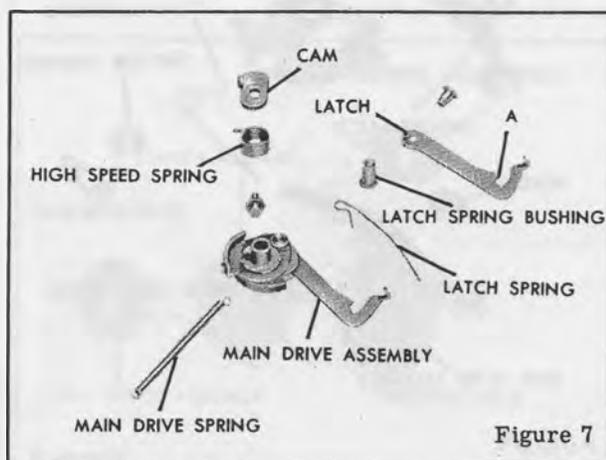
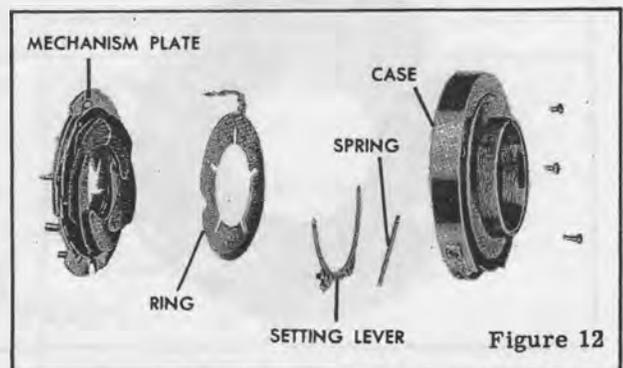
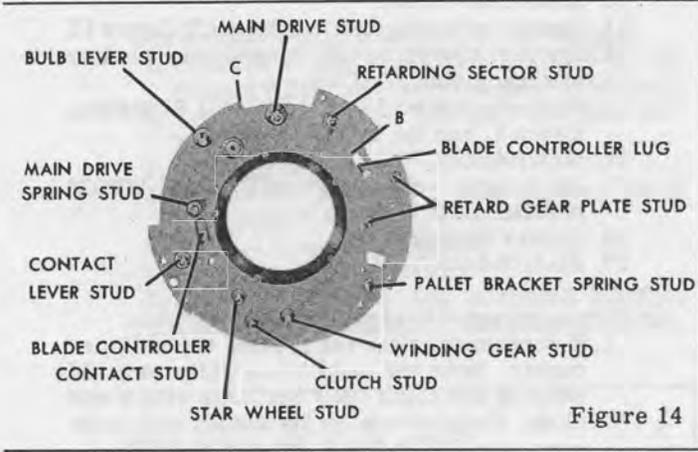
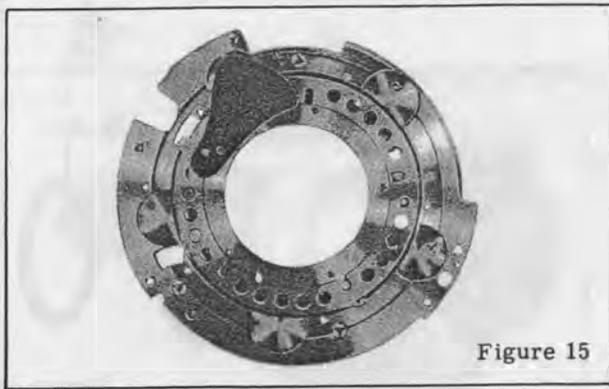

Figure 7
Figure 12
Figure 14
Figure 15
6. High speed spring **CAM**, figure 7, and the **HIGH SPEED SPRING**.
5. Unhook the MAIN DRIVE SPRING, figure 7, from the MAIN DRIVE SPRING STUD, figure 14.
3. Place the long end of the sector spring against the inner side of the blade controller LATCH SPRING BUSHING, figure 7.
5. Unhook the LATCH SPRING, figure 7, from the main drive LATCH.
1. Apply a thin film of grease (Texaco Unitemp-RCX169 Grease) in the slot on the main drive assembly where it engages the stop stud on the SETTING LEVER, figure 12; on the MAIN DRIVE STUD, figure 14; on the LATCH, figure 7, at the point of contact with the LATCH SPRING, and on the latch where it contacts the RETARDING SECTOR STUD, figure 14. This area of the latch should be burnished before applying the lubricant.
8. Release the shutter and at the same time retard its opening action by placing one finger against the shutter **SETTING LEVER**, figure 12. Observe whether the **BLADE CONTROLLER CONTACT STUD**, figure 14, makes slight contact with the contact spring stud before the blades are fully open. If the spring does not touch the stud, bend the end of the spring toward the stud.
8. Cock and release the shutter and at the same time retard its opening action by placing one finger against the shutter SETTING LEVER, figure 12. Observe whether the BLADE CONTROLLER CONTACT STUD, figure 14, makes slight contact with the contact spring when the blades are fully open. If the spring does not touch the stud, bend the end of the spring toward the stud.
13. Blade controller LATCH SPRING BUSHING, figure 7, and the LATCH SPRING.
14. MECHANISM PLATE, figure 12.
3. BLADE WITH DOUBLE BLADE BUSHING and stud, with the hole in the blade over the stud on the mechanism plate near the BLADE CONTROLLER LUG, figure 14. Refer to figure 15 for positioning of the shutter blade,
8. The shutter CASE, figure 12, diaphragm RING, and the SETTING LEVER with stop stud should be thoroughly cleaned. Apply a thin film of grease (Texaco Unitemp-RCX149 Grease) in the recess in the case occupied by the setting lever. Then wipe this area lightly with a clean cloth.